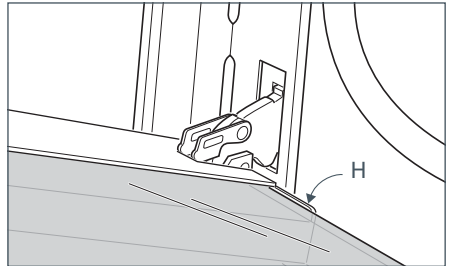

Fig.47c
- Insert the pane in the left "E" and right "F" slide guides, and gently slide it to the retainers "H" (Fig. 47c).